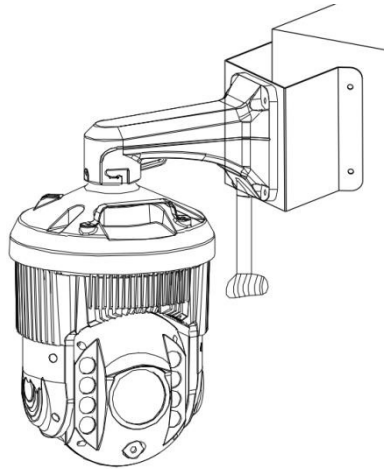

Figure 1-3-8
(3) Install the PTZ camera and bracket: see 1.3.1.
(4) Install the wall bracket.
a. As shown in Figure 1-3-8, gather the wire harness into the bracket, then fix the bracket to the bracket accessories with 4 M6 screws, and use $\phi 6$ flat washers, spring washers and nuts to lock.